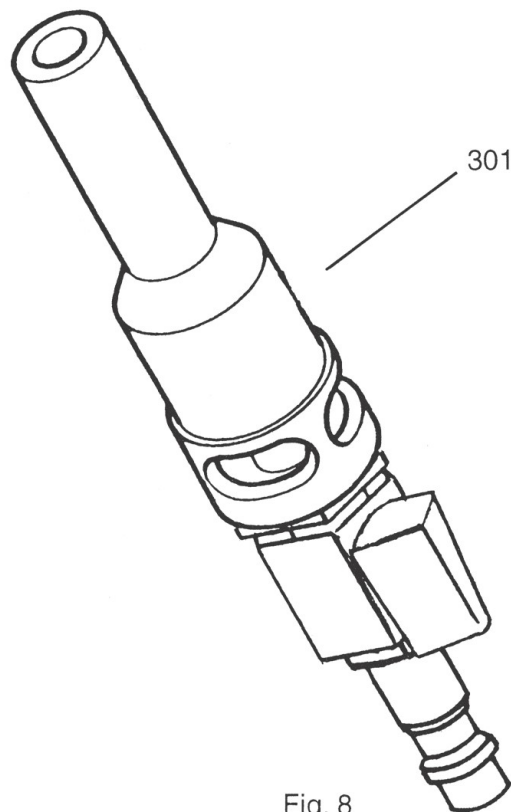

Fig. 8
Pressure transducer (Fig. 8)
- **Pressure transducer for connection to compressed-air systems with a capacity of at least 250 l/min. at 2.5 to 4 bar operating pressure (Fig. 8)**